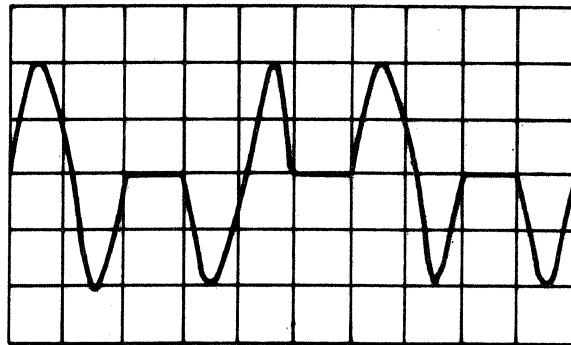

Figure 5-6. Head Alignment (Track 34)
- l. Observe oscilloscope pattern (Figure 5-6).